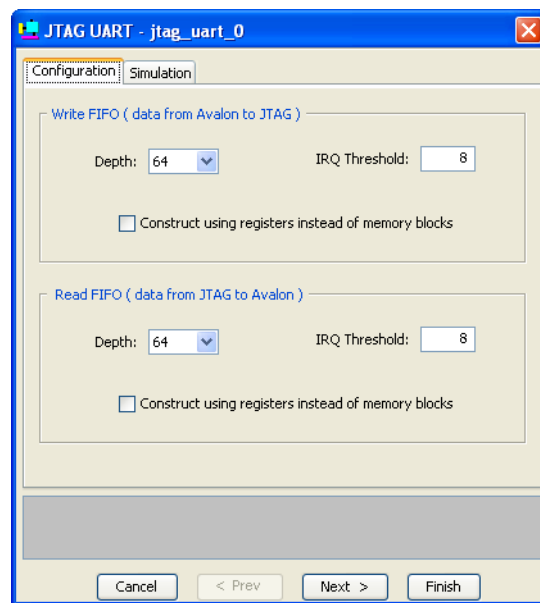

Figure 12. Define the JTAG UART interface.
- Select Avalon Components > Communication > JTAG UART and click Add to reach the JTAG UART Configuration Wizard in Figure 12